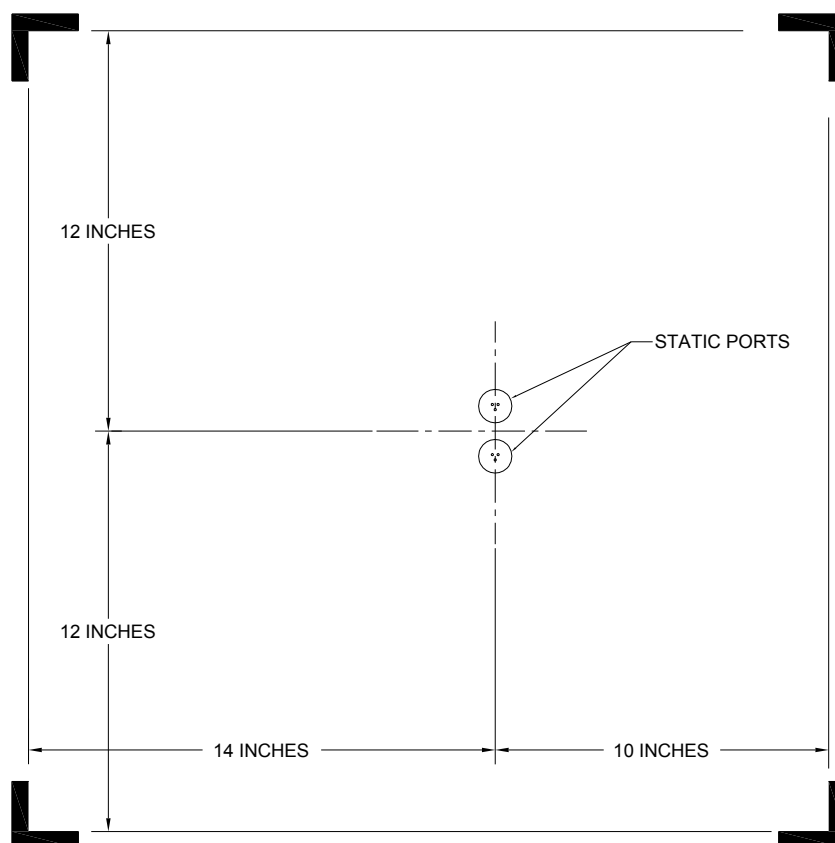

Figure 1, RVSM Critical Region
2. Verify that the static port openings are smooth and round, and that there is no foreign material in the static port openings. Visually inspect the fuselage skin in the RVSM critical region (defined by markings in the vicinity of the static ports) to verify the absence of skin defects, physical damage, or large gaps and steps in the skin surface caused by improperly seated access panels or hatches. Refer to Figure 1 – Right side mirrors the Left.
2. Verify that the static port openings are smooth and round, and that there is no foreign material in the static port openings. Visually inspect the fuselage skin in the RVSM critical region (defined by markings in the vicinity of the static ports) to verify the absence of skin defects, physical damage, or large gaps and steps in the skin surface caused by improperly seated access panels or hatches. Refer to Figure 1.